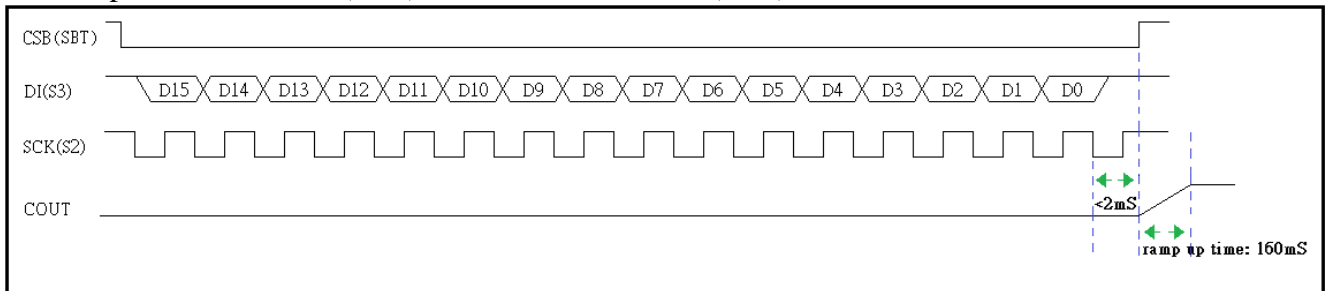

Fig. 11 Power-Up command timing
- a. Command timing reference Fig. 11 Power-Up command timing.